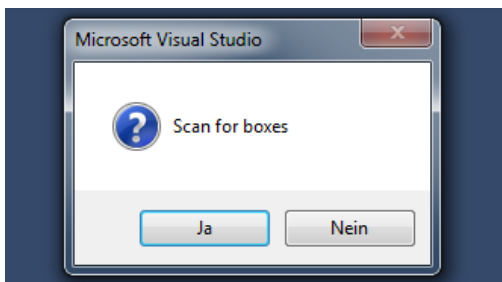

Figure 6.4: TwinCAT – Scan for boxes
- Confirm the prompt "Scan for boxes" with "Yes" (see Figure 6.4)